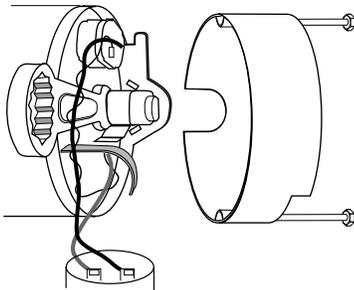

Figure 7
- If impeller must be replaced, loosen two machine screws and remove motor canopy (See Figure 7).
- Slide 7/16" open end wrench in behind spring loaded switch on motor end of shaft; hold motor shaft with wrench on shaft flats and unscrew impeller by turning counterclockwise when looking into eye of impeller (See Figure 7).